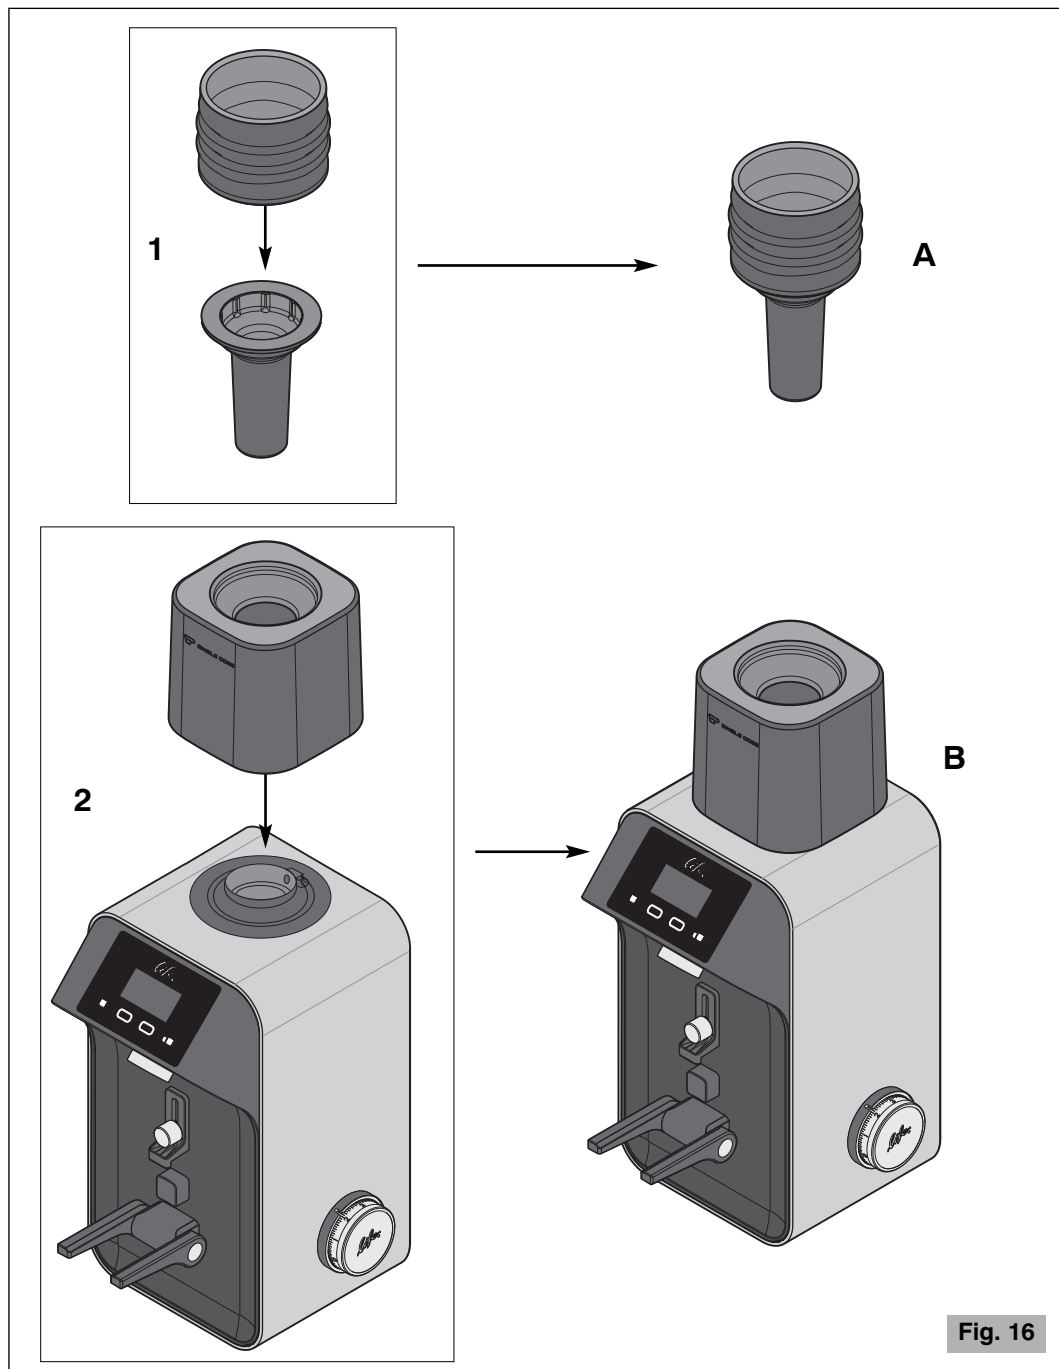
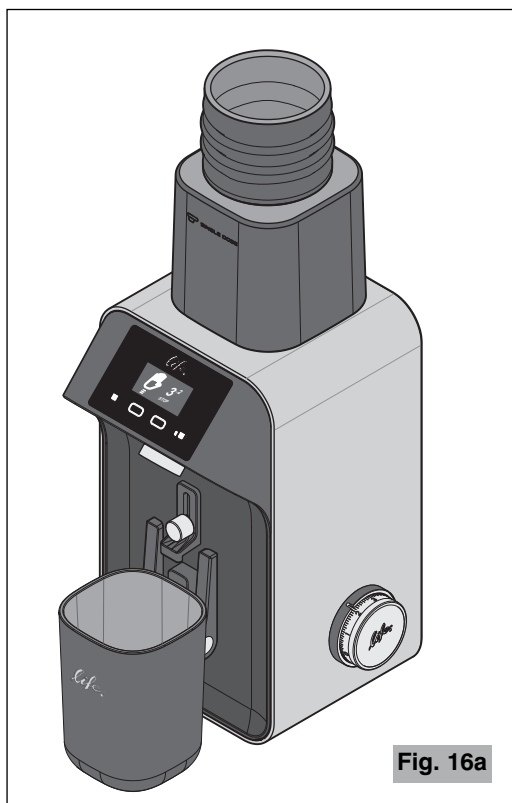

Fig. 16
Fig. 16a
5. Insert the bellows into the pusher (point 1 of Fig. 16).
6. Place the kit support in its seat (point 2 of Fig. 16).
- 5 Insert the bellows-pusher assembly (A Fig. 16) into the opening of the support, letting it rest on the coffee beans (Fig. 16a).
- 6 Place the supplied container (15 Fig. 3) or any other container on the support fork (2 Fig. 1) or on the support surface of the appliance (after placing the fork in a vertical position - see Fig. 16a).
Never operate without the hopper fixed by the appropriate screw (6a, Detail A Fig. 3) or without having positioned the support of the single dosing kit (point 2 Fig. 16).